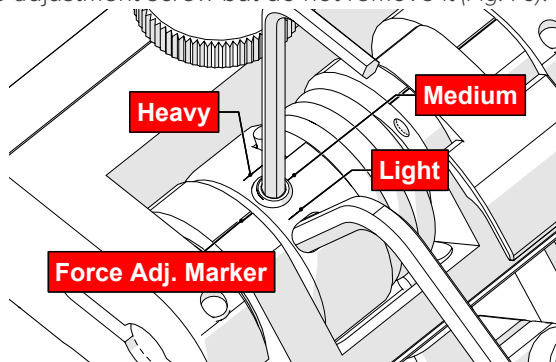

Fig. 77 - Choose desired tension
6. Gently apply pressure on the long leg of the 3 mm hex wrench until the force adjustment marker lines up with the desired spring tension. While keeping the markers in line, tighten the force adjustment screw (Fig. 77).